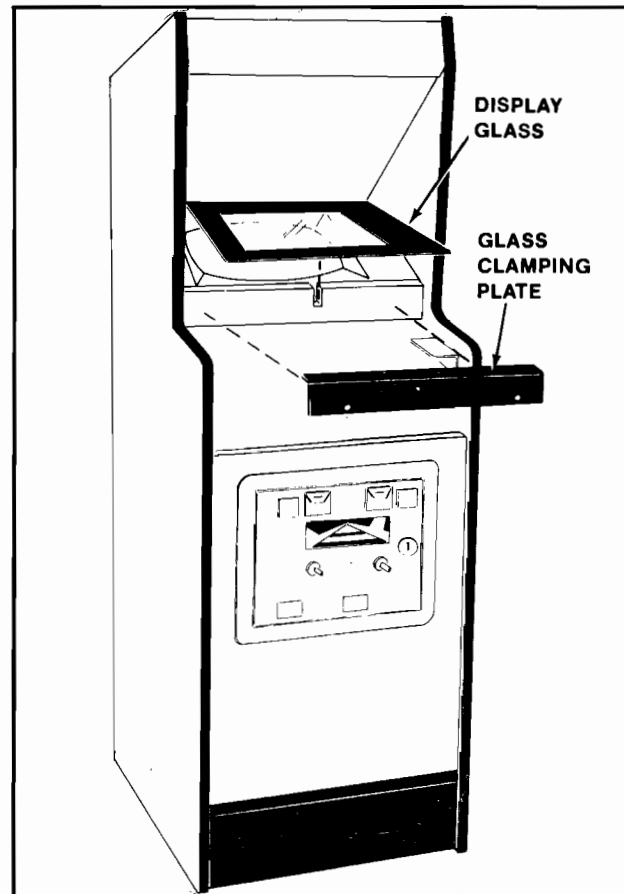

Figure 4-6 Removing the Main Display Glass & T.V. Bezel — Mini
### 2. MINI MODEL: See Figure 4-6.
- Remove the screws which secure the glass clamping plate. See Figure 4-6.